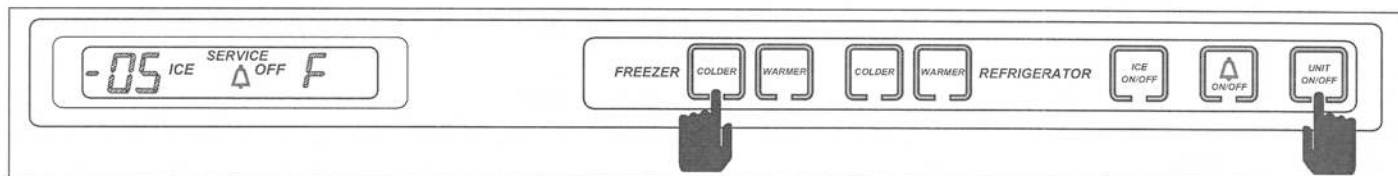
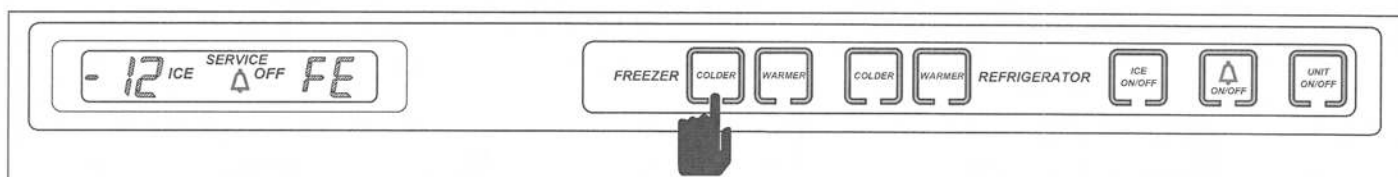
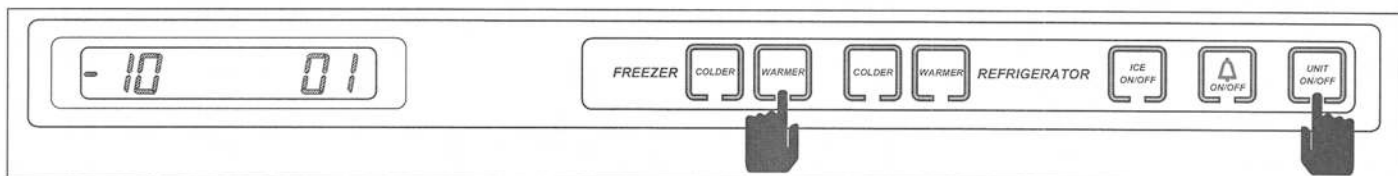
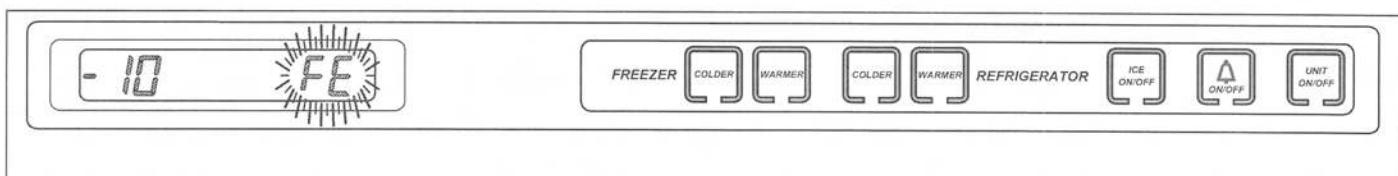

Figure 3-51. Initiate Diagnostic Mode - Press and Hold Either COLDER Key, then the UNIT ON/OFF Key
Figure 3-52. Toggle Through Temperature Readings - Press Either COLDER Key or Either WARMER Key Until Desired Thermistor Temperature is Displayed
Figure 3-53. Initiate Temperature Log Recall Mode To View Temperature History - Press and Hold Desired WARMER Key and UNIT ON/OFF Key
Figure 3-54. Thermistor Location Code Flashes Every Three Seconds
**Initiate Temperature Log Recall Mode To View Compartment and Evaporator Temperature History** - Begin with the unit ON and in Diagnostic Mode (See Figure 3-51). While in Diagnostic Mode, toggle through the readings until the desired thermistor temperature is displayed on the LCD (See Figure 3-52). Now, press the WARMER key for that compartment and the UNIT ON/OFF key simultaneously (See Figure 3-53). The left display area on the LCD will show average thermistor temperature and in the right display area will be the index number "1" indicating the most recent 2-hour temperature average (See Figure 3-53). The right display area will also flash the thermistor location code at three second intervals (See Figure 3-54).